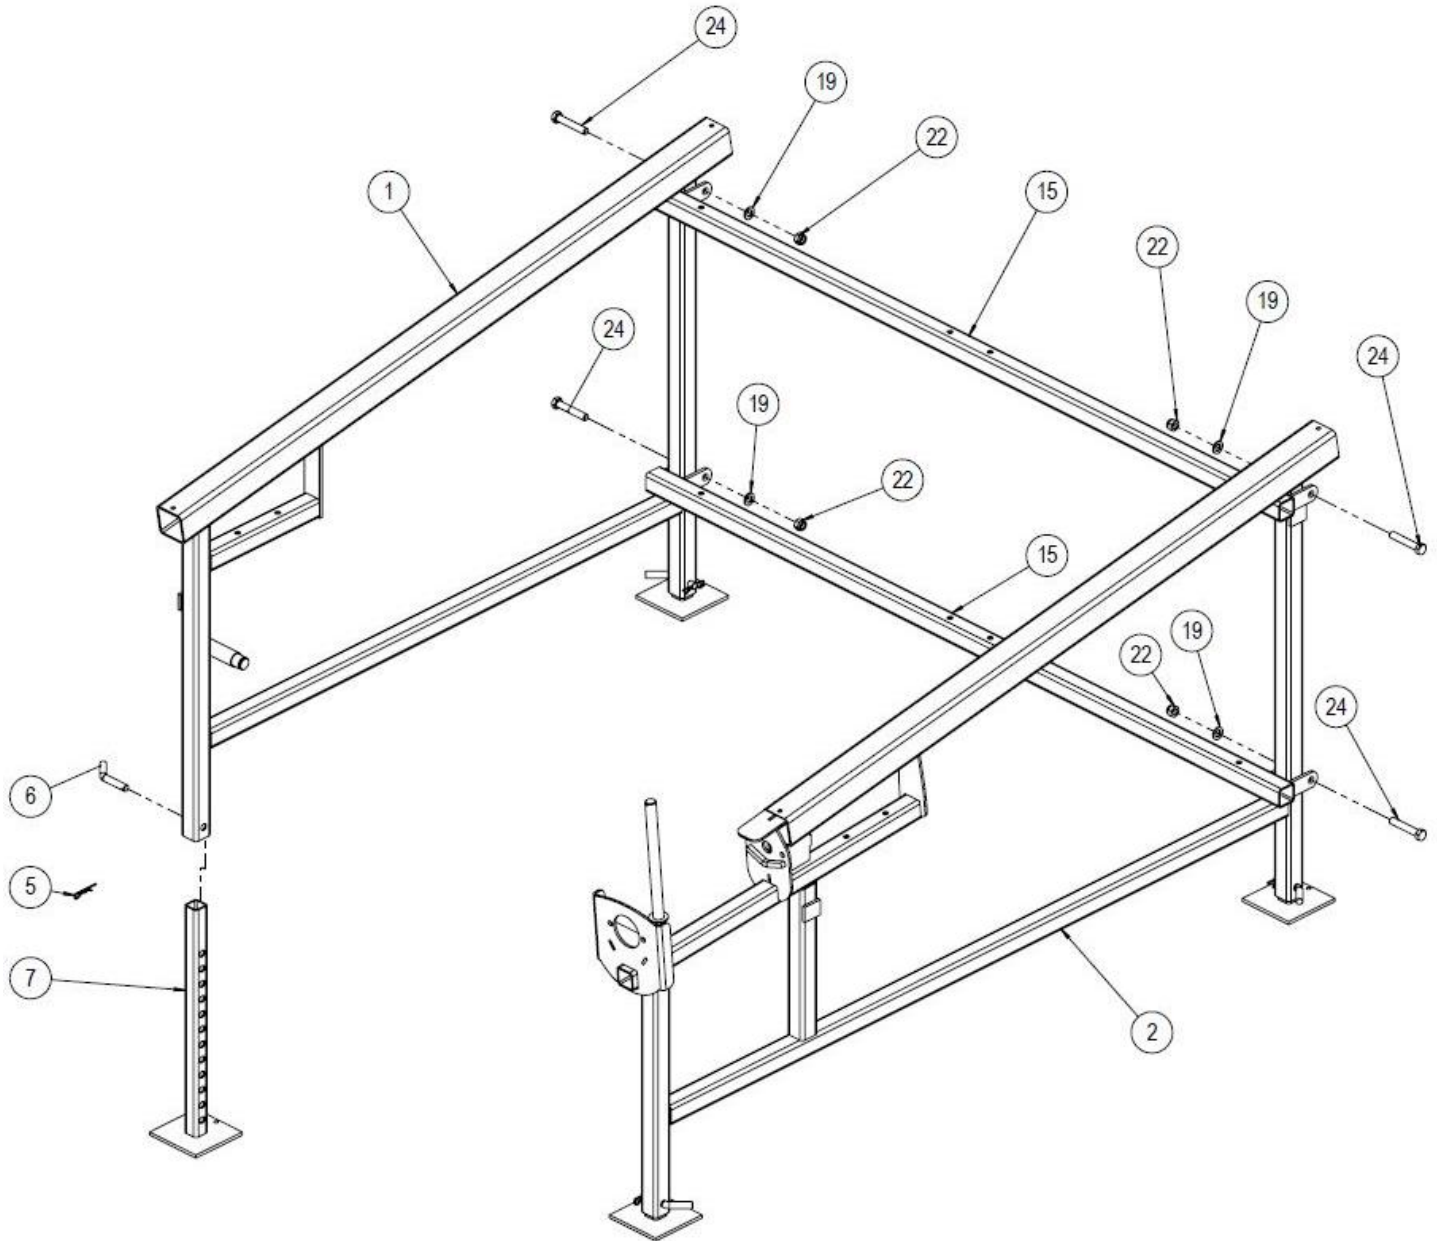

Figure 7
**Phase 1:** Assemble in accordance with Figure 7 and leave the screws loose.